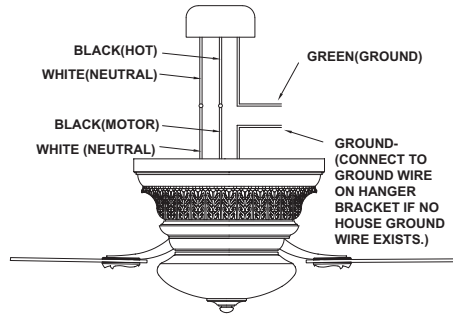

Fig.5
**Step 2.** If your outlet has a ground wire (Green or Bare Copper) connect the fan and mounting bracket ground wires to it, otherwise, connect the fan ground wire directly to the mounting bracket ground wire. (Fig. 5)